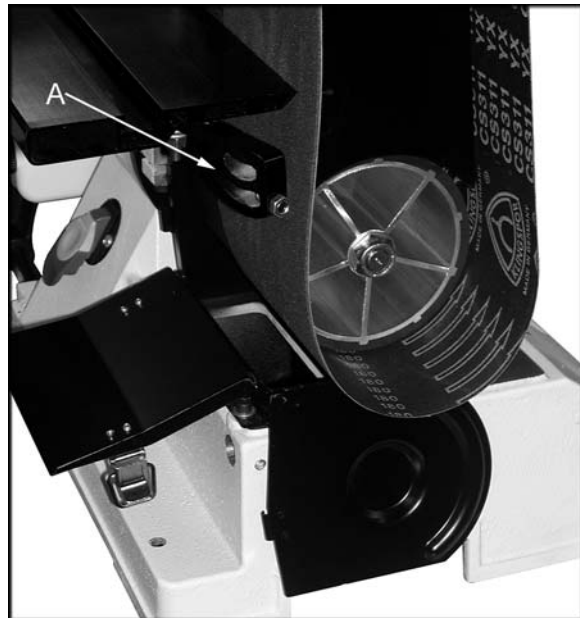

Figure 9
4. Pivot the trunnion assembly (A, Fig. 9) out of the way.